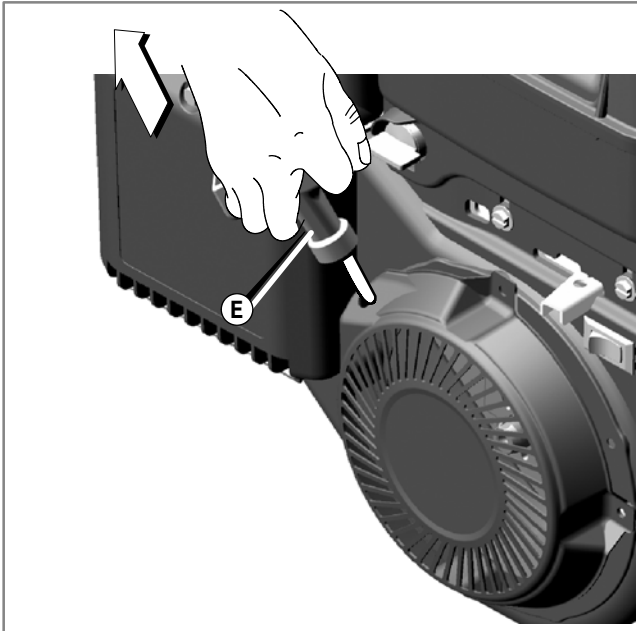

Figure 10: Rewind Start
6. **Rewind Start** – Firmly hold the starter rope handle (E) (Figure 10). Slowly pull the starter rope handle until resistance is felt, then pull quickly.